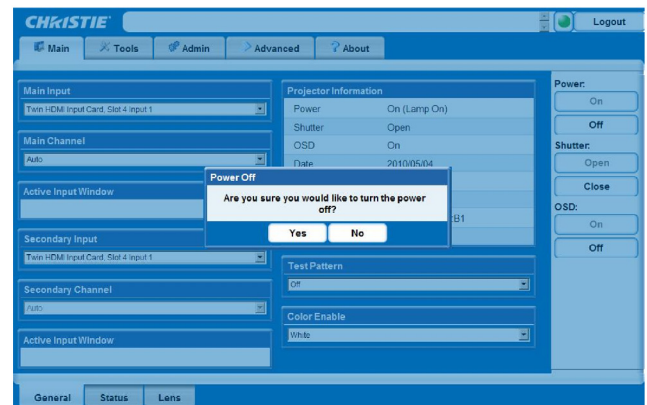

FIGURE 2-37 POWERING DOWN/WEB USER INTERFACE
1. From the **Main** Tab, Select **Power>OFF**. **NOTE:** A window will display for confirmation on powering down, see Figure 2-37.